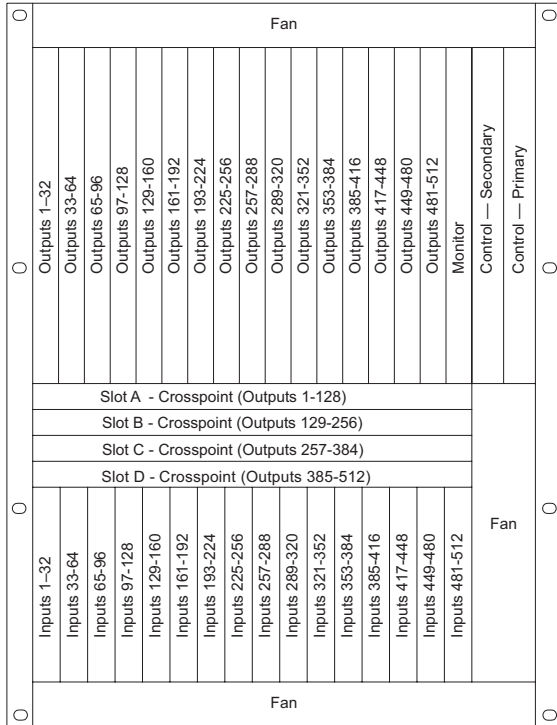

Figure 4-7. Location of Input Cards (Front View)
- Locate the MADI output cards, as shown in Figure 4-7 on page 93.